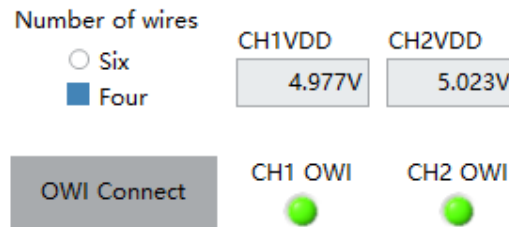

Figure 5.1.8 OWI Connect
- Click the "Four" option under "Number of wires" and select the chip connection form (described in the hardware connection diagram in Chapter 3). Click the "OWI Connect" button to establish the communication connection between the programmer and the chip. When the programmer is connected normally, the programmer connection indicator will turn green (Figure 5.1.8).